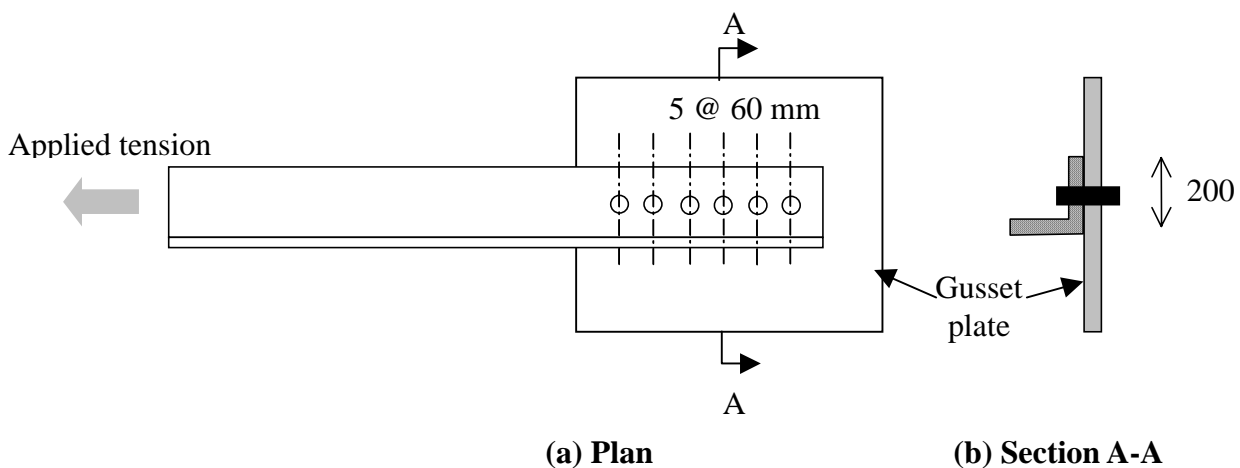

Figure 5 Connection configuration
- c) An engineer is assessing the tensile strength of a bracing connection in which a $200 \times 200 \times 18$ EA (Grade 300) is bolted to a 25 mm thick gusset plate (Grade 300 to AS/NZS 3678) by 6 bolts as shown in Figure 5. The bolt pitch is 60 mm. Grade 8.8 snug tight M16 bolts are used in this connection, and the plane between the gusset plate and angle coincides with the *threaded* part of the bolt.